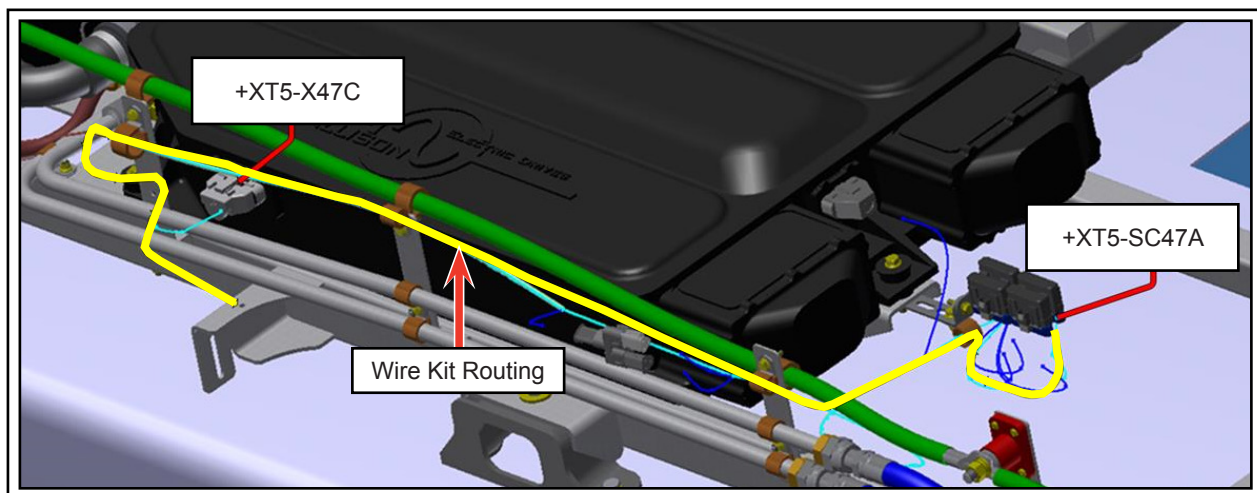

Figure 3 - Routing of Wire Kit (N632000563)
- 1.6. Disconnect and secure the existing wire 47-112 using zip tie (G5007993) at position A of the splice connector +XT5-SC47A (see Figure 3).
- 1.7. Connect the wire 47-586 at position A of the splice connector +XT5-SC47A (see Figure 3).
- 1.8. Route the wire directly on the wire harness above the cooling pipelines until the structure support (see Figure 3).